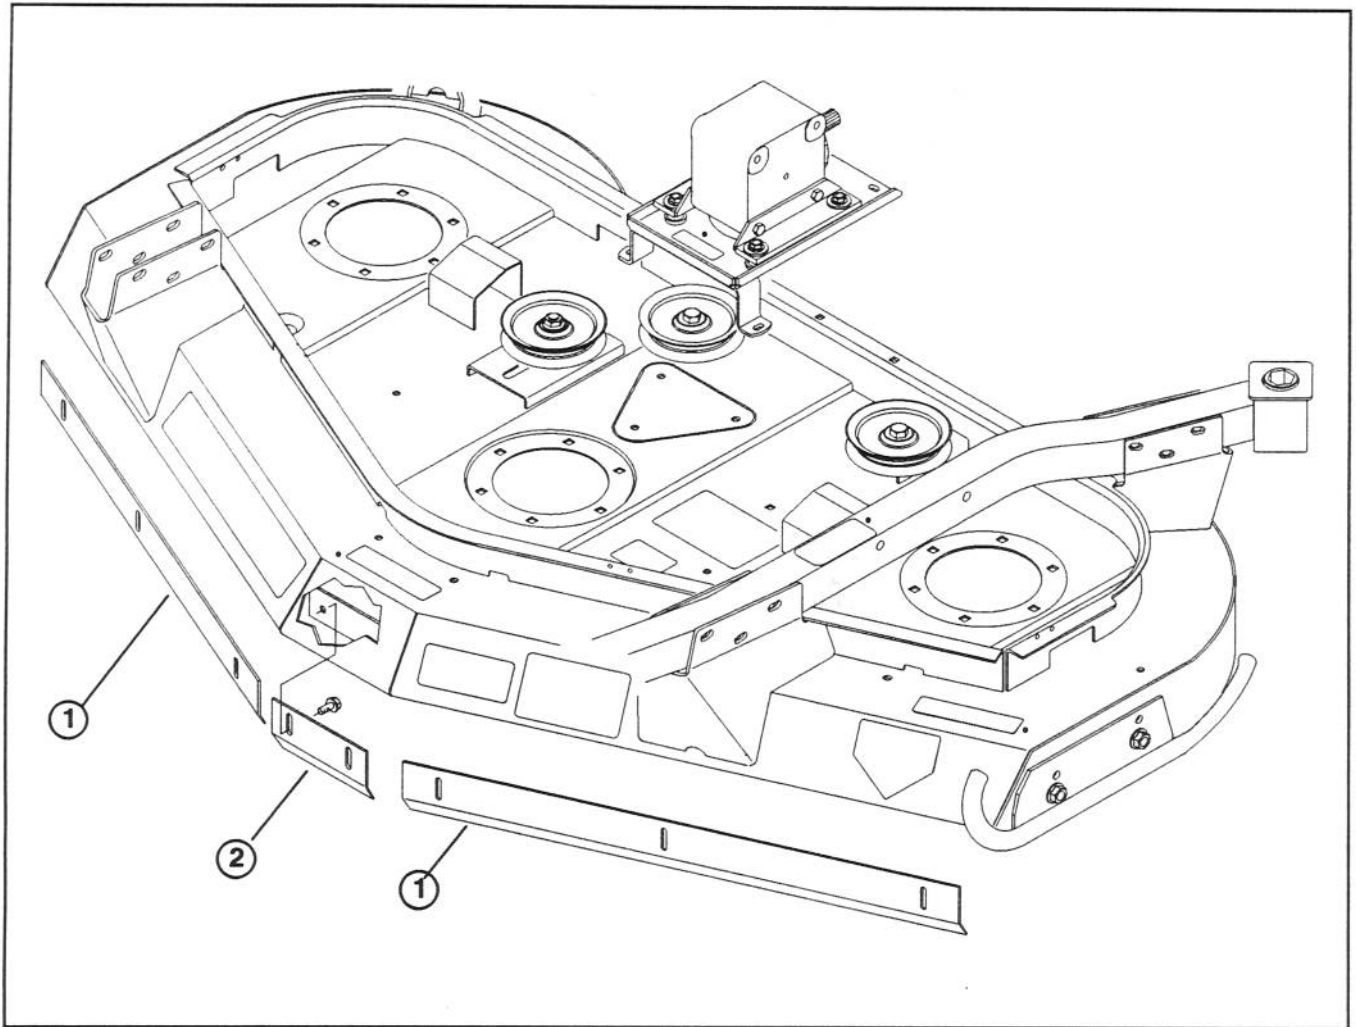

Figure 2
6. Loosely secure baffles to deck straps with flange head capscrews, positioning them as shown in figure 2.